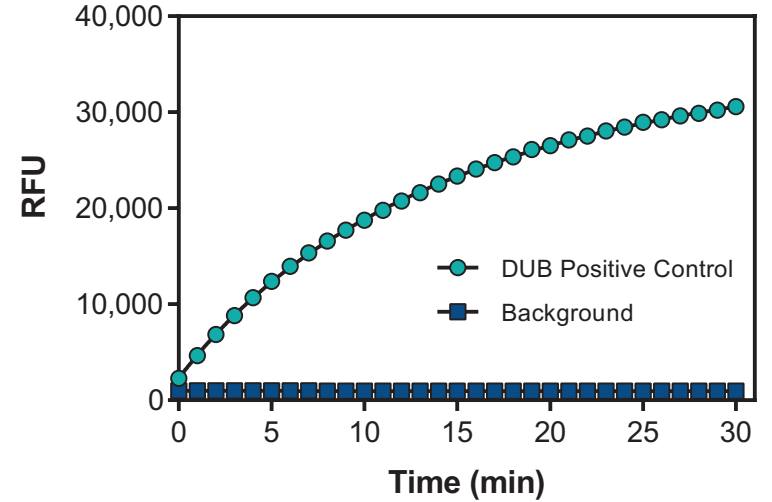

Figure 4. DUB Positive Control Activity
- a. Plotting the fluorescence values as a function of time to obtain the slope (rate) of the linear portion of the curve. An example of USP2 catalytic domain assayed over time is shown in Figure 4 on page 15.